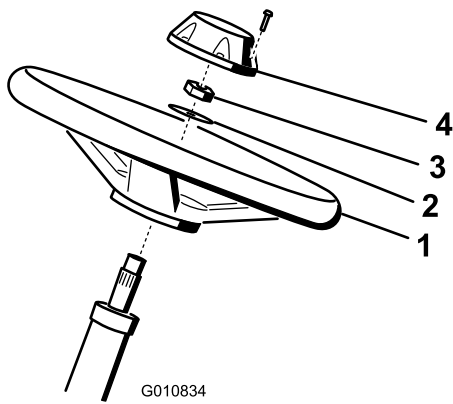

Figure 8
10. Install the wheel to the steering shaft using the washer and locknut (Figure 8).